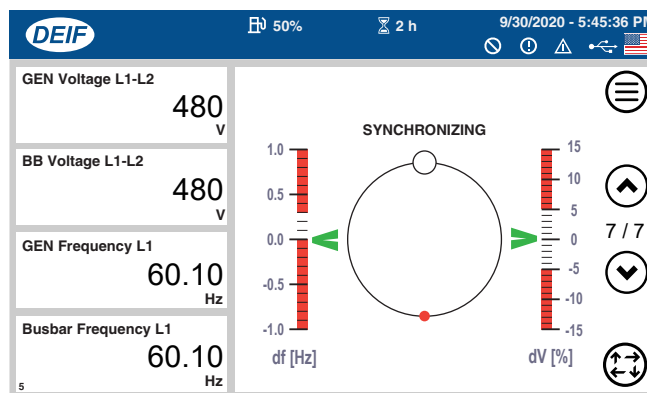

Figure 116. Synchronization Status Screen
11. After pressing the **Main Circuit Breaker ON** button on **generator #2**, verify that the **Synchronization Status** screen (**7 of 7**) is shown on the touch display. See Figure 116.
12. Observe as the small red circle (Figure 116) rotates about the axis, indicating that synchronization between the two generators is in progress.